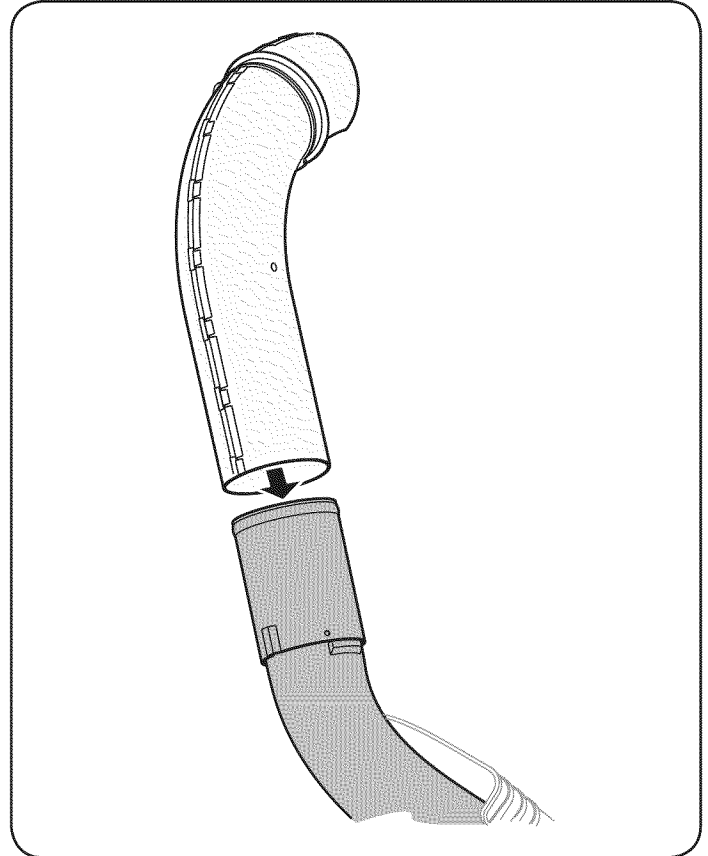
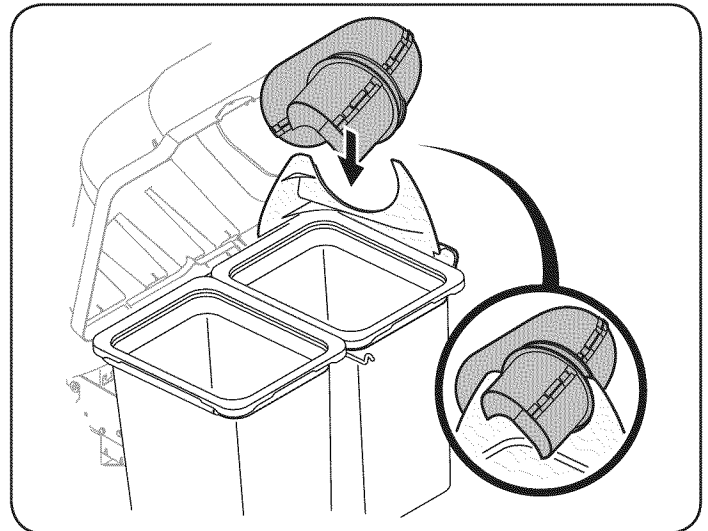

Figure 25
Figure 26
17. With the grass catcher cover open, install the discharge chute over the chute extension tube, as seen in Fig. 25, and rest the top end into the upper chute support installed on the right-hand side of the bin support assembly. See Fig. 26.
NOTE: The groove on the upper chute should be aligned with the upper chute support, as seen in the inset of Fig. 26.